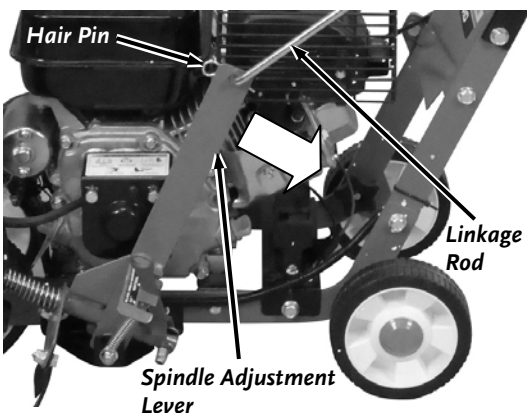

Figure 22
- Remove the Hair Pin from the lower end of the Linkage Rod and remove the Rod from the Spindle Adjustment Lever (**Figure 22**).